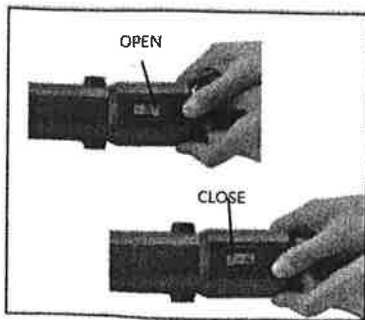

Fig.1 (Switch)
3. Before startup, make sure that the switch of the machine is on CLOSE position (as shown in Fig.1).
- 1.3 When blade adjustment is completed, connect up with the power supply, turn on the machine (see Fig. 1) and keep it running for 1 minute.